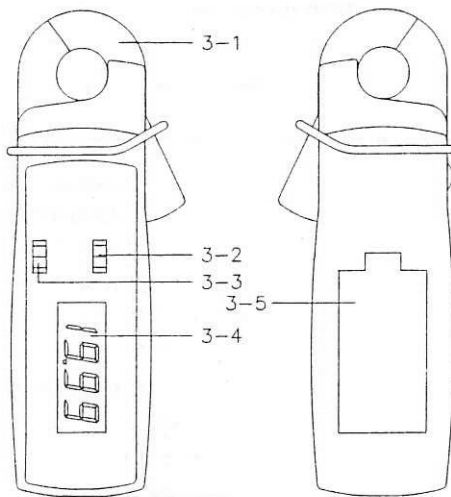

Fig. 1
- 2) When apply the " DATA HOLD " function, slide the " Off/On/Hold Switch " ( 3-2, Fig. 1 ) to the " Hold " position. Otherwise it is necessary to slide the " Off/On/Hold switch " to " On " position always.
- 1) Select the " Power On/Off/Hold switch " ( 3-2, Fig.1 ) to the " On " position.
- 2) Select the " 200mA/20A/200A Switch " ( 3-3, Fig. 1 ) to the " 200 mA " position.
- 3) Press the trigger to open the "Current Sense Jaw" ( 3-1, Fig. 1 ). & clamp on the measured conductor only.